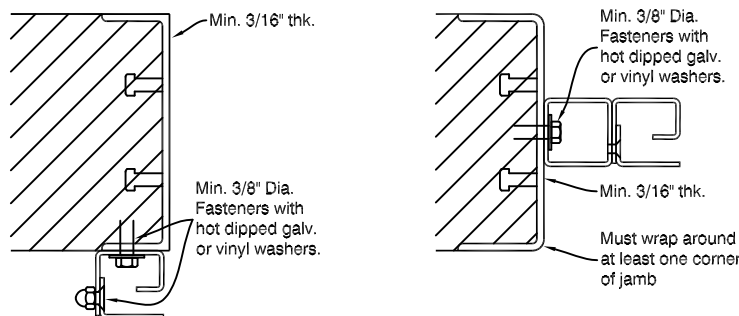

Fig. 5
**c.** When fastening to a steel frame, drill and tap holes for the appropriate fastener size. Fasten as shown in Fig. 5 with a min. of 3/8" dia. fasteners equal to that specified in the latest edition of NFPA 80 section 6-4.1.4. Note: Steel frame member must be embedded or secured to the masonry wall prior to the wall / guide assembly to them.